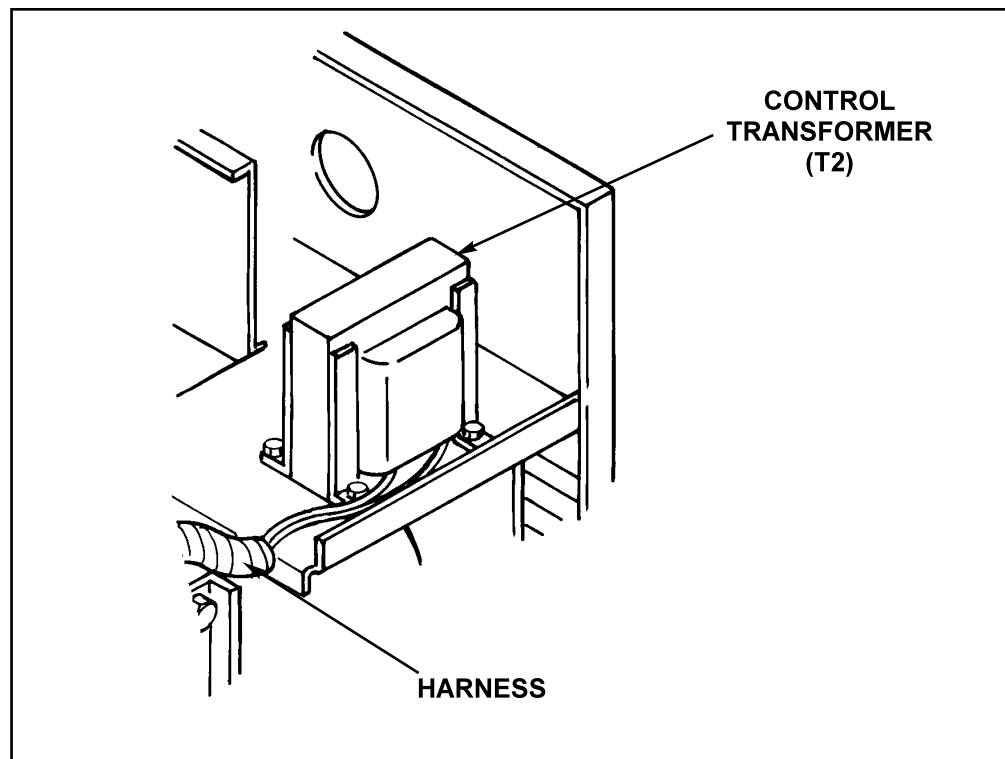

FIGURE F.1 - Control Transformer Lead Location
3. Locate the Control Transformer (T2) on the left side of the Input Box (facing the back of the machine). See Figure F.1.